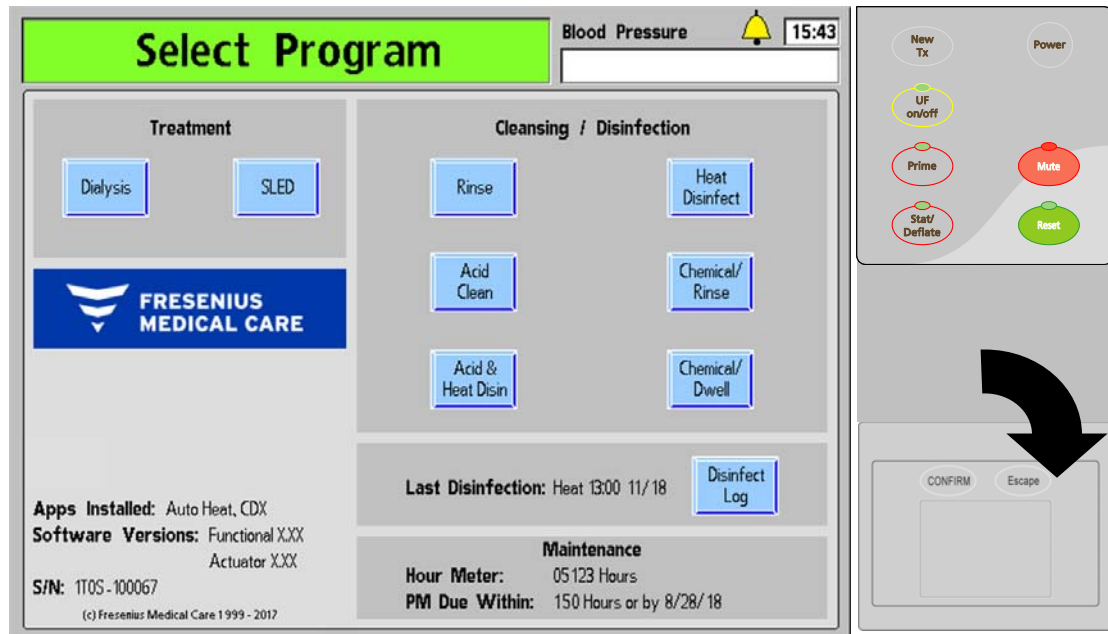

Figure 22 – The Select Program Screen (functional software version 2.72) and Touchpad
Note: The “Select Program” screen displays any additional software applications (Apps) that are installed on the 2008T hemodialysis machine (see Figure 22 for an example).
1. Press the **POWER** key on the control panel. The “Select Program” screen (see Figure 22) will appear on the monitor after approximately one minute.